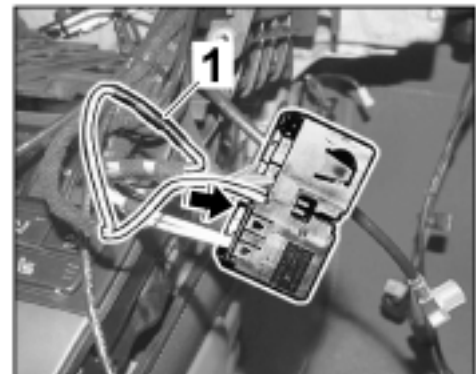

Figure 48
- 5.9.3 Insert socket contact ⇒ *Figure 48-arrow-* into chamber A14 of the PCM central connector.